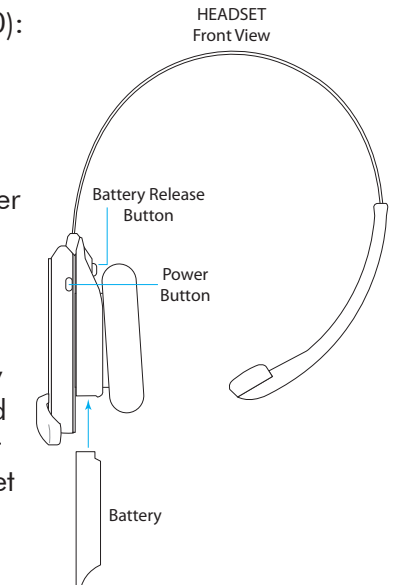

Fig. 3.2
1. Install a charged battery into the headset (if not already installed) and press the power button to turn on (see Fig. 3.2). The status LED blinks green and red.